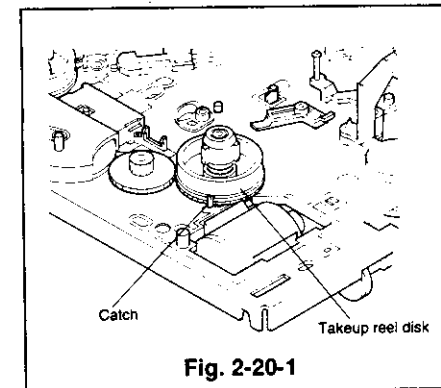

Fig. 2-20-1
- 2 Remove the sub brake(SP) and the sub spring(SP). (Refer to Para. 2-14 for the removal method.)
- 4 Unfasten the catch shown in Fig. 2-20-1 and raise the takeup reel disk upward to remove it from the shaft.